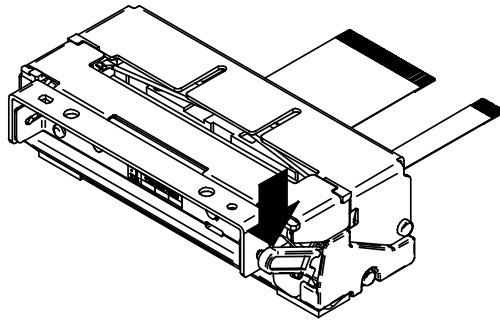
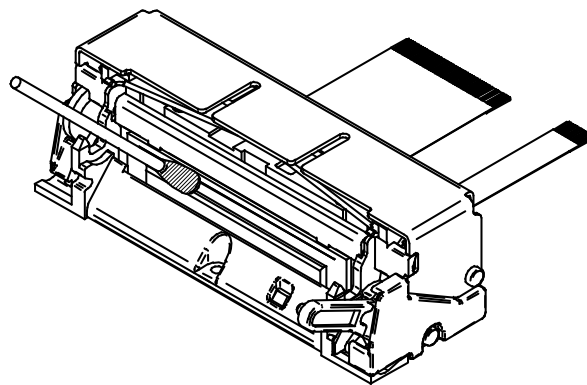

Figure 8-1a Installing the Thermal Paper by the Easy Operation
Figure 8-4 Cleaning Position of the Thermal Head
(1) Procedure for installing the thermal paper by the easy operation (setting and releasing the platen block)
- Push the platen release lever in the direction of the arrow in the Figure 8-1a.
(2) Procedures for uninstalling the thermal paper by releasing the platen block
(1) Push the platen release lever in the direction of the arrow in the Figure 8-1a.
(2) Pull up the platen block after making sure that the platen block is released from the printer main body.
(3) Remove the thermal paper.
(2) If the movable blade cannot release at once, repeat the motion of the above. And so the movable blade is returned to the home position.
(3) Release the platen block in the same way as "Procedures for Removing the Paper Jam". And remove the cause of stopping the movable blade.
- (1) Turn the power off.
- (2) Push the platen release lever to the direction of the arrow in the Figure 8-1a.
- (3) Pull up the platen block after making sure that the platen block is released from the printer main body.
- (4) Clean the heat element shown in Figure 8-4 using a cotton swab dipped in ethyl alcohol or isopropyl alcohol.
- (5) Set the platen block after the alcohol has dried completely.